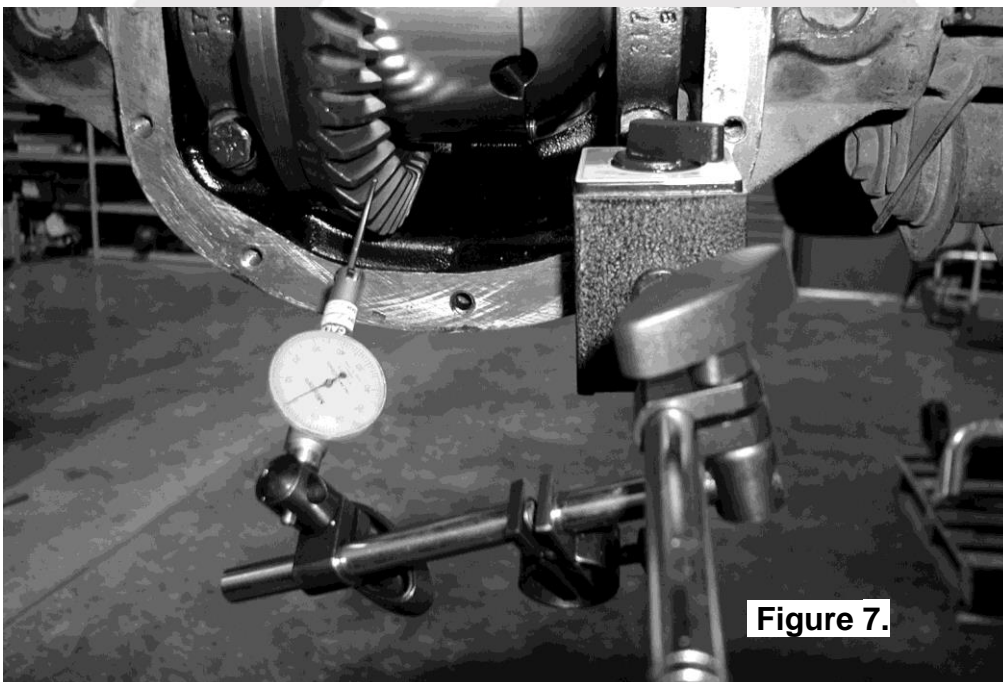

Figure 7.
- Set a depth indicator on one of the ring gear teeth (Fig.7.).